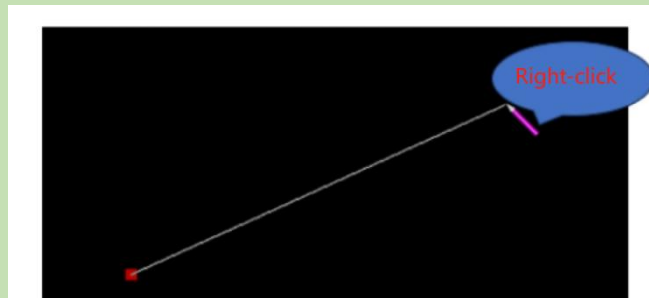
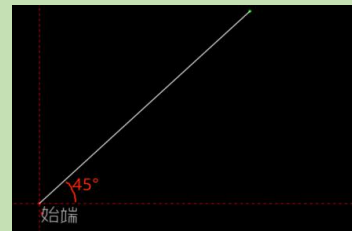

Figure4-13
Figure4-14
a. After the first step is completed, you can switch between free straight lines and T-squares by right-clicking (as shown in Figure 4-13). (As shown in Figure 4-14).